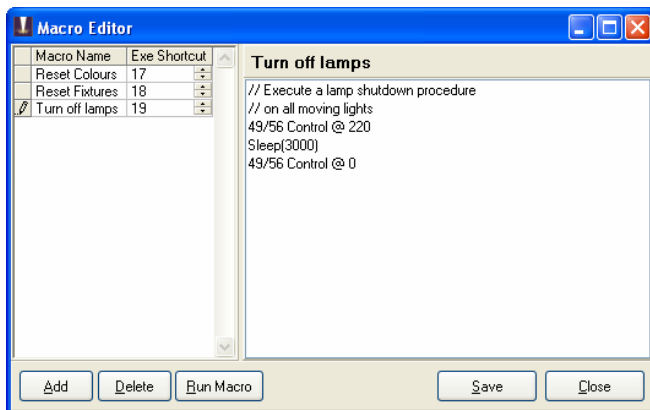

Figure 114: Macro Editor
- ◆ **Sleep** – The sleep command will cause the software to pause before continuing to execute commands after this line. In the above example (Figure 114 on page 189), the control channel is set to DMX 220 and then set back to 0 after a short delay of 3 seconds. Enter the time of the delay in brackets after the commands. (The time entered must be in milliseconds)